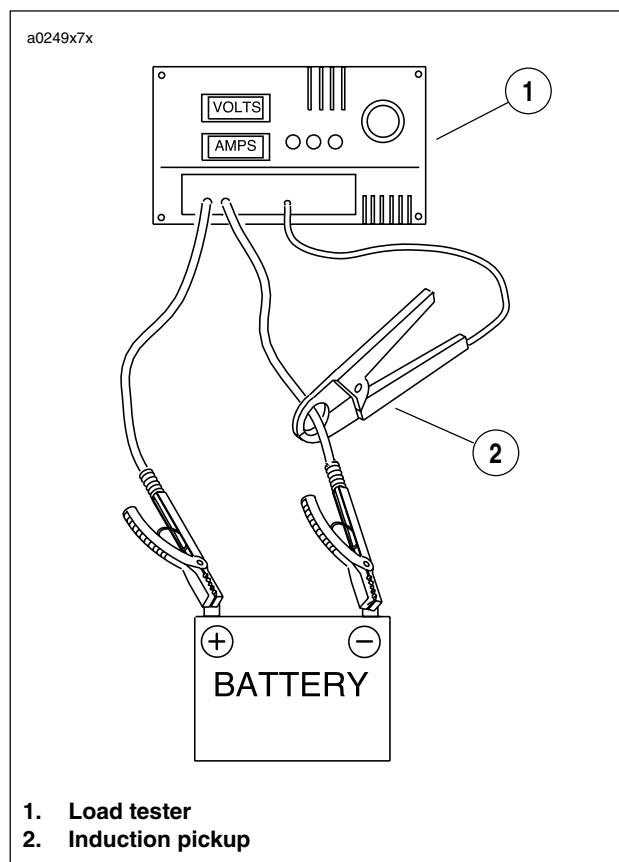

Figure 7-47. Checking Current Draw Using Load Tester with Induction Pickup (Ignition Switch ON)
1. See Figure 7-47. To check for this condition, place load tester induction pickup over battery negative cable.